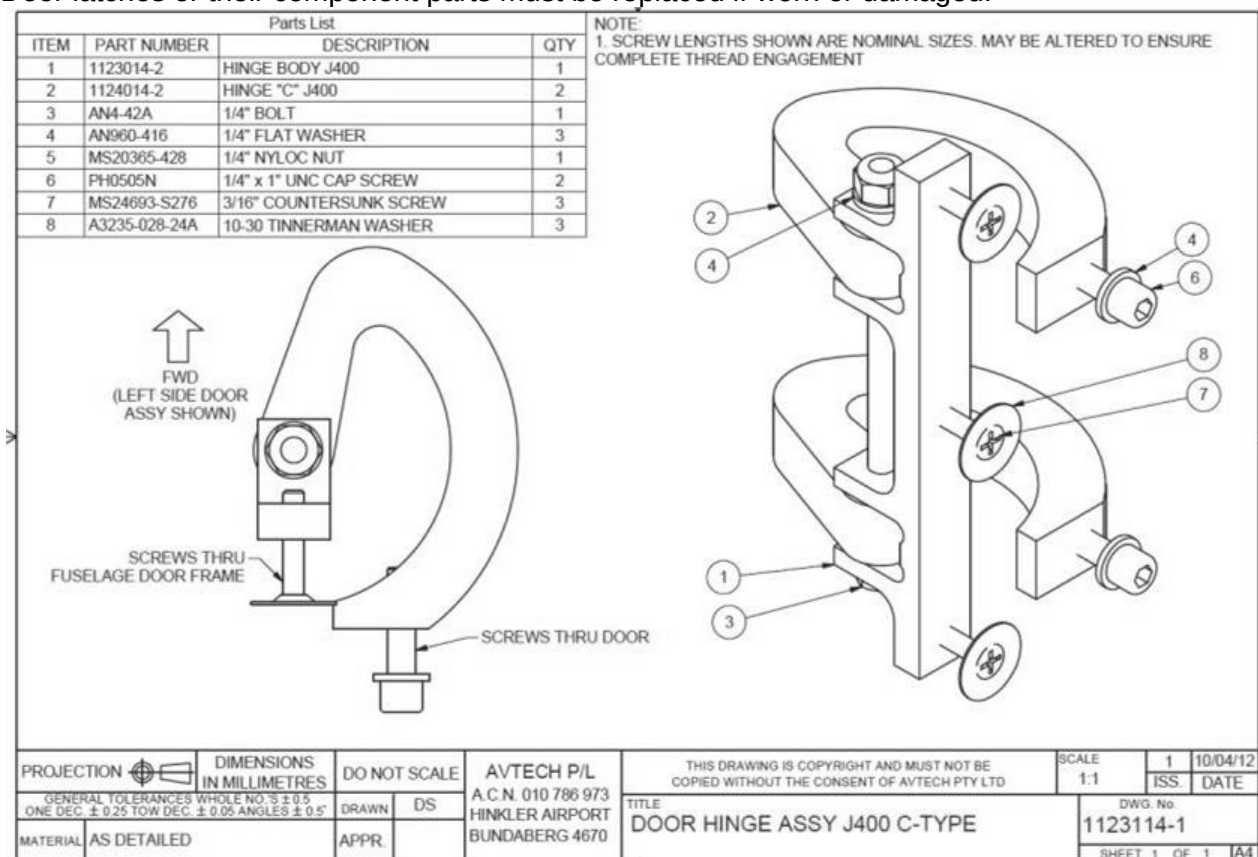
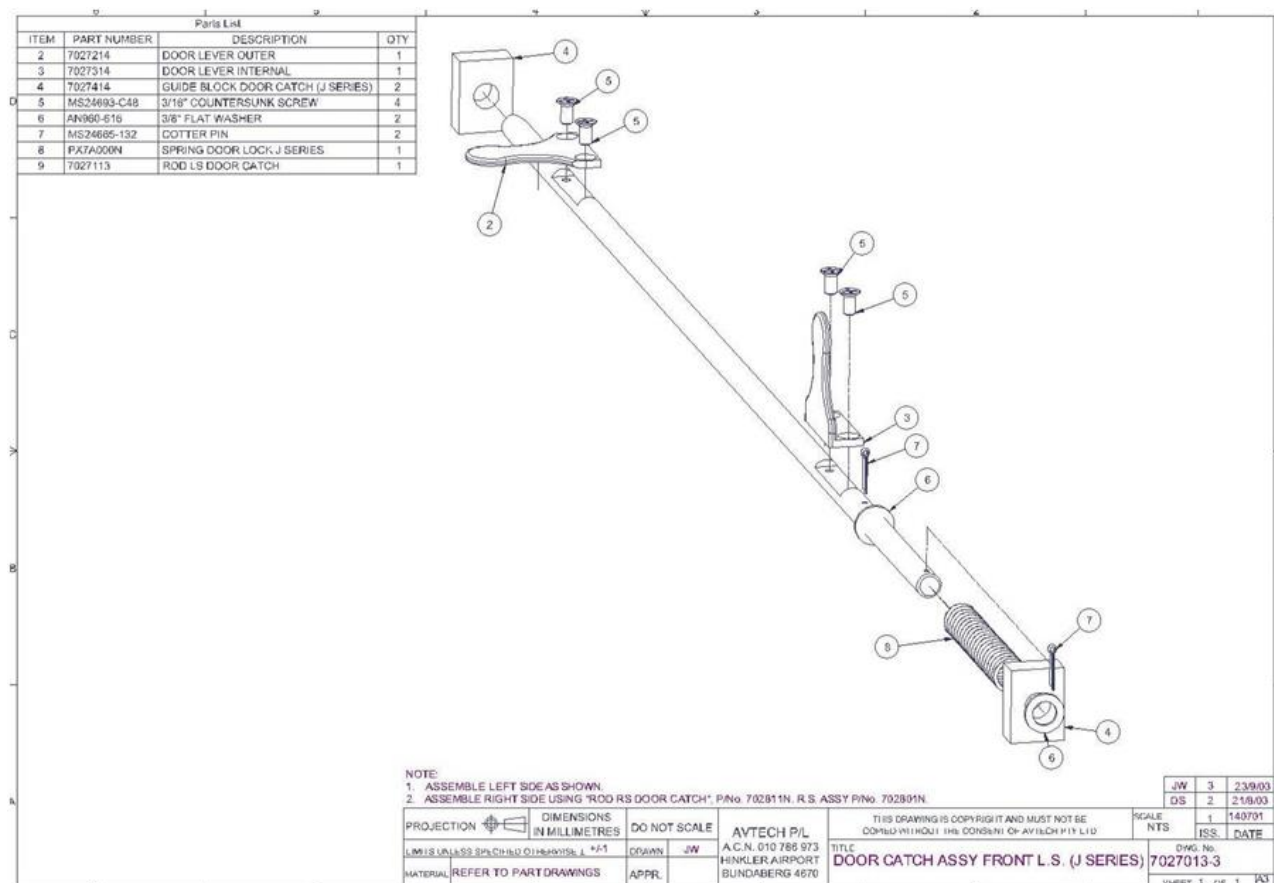

Figure 52 – J200-Type Door Hinge Assy (J200/J400)
Figure 55 – J200-Type Door Latch Mechanism Assembly (J200/J400)
- J200-Type cabin doors are those which use the door hinge assembly shown in Figure 52 and the latch shown in Figure 55. Early J200-family aircraft used this type of door.
- Removal of doors is achieved by removing the hinge bolts or removing the machined screws that attach the hinges to the door frame. Refer to Figure 52 below.
- There is one main latch on each door of a simple spring type. This is complemented by a catch at the top front quadrant of each door. An assembly drawing of the latch mechanism is provided as Figure 55 below.